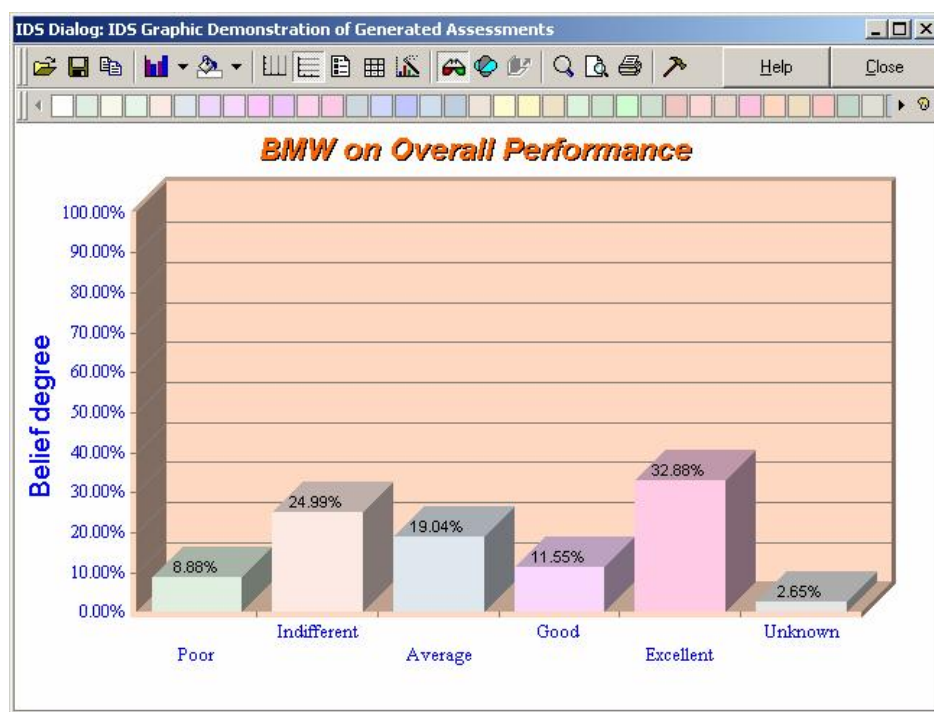

Figure 5.5 Display Performance Diversity of An Alternative
3. Click the  button in the toolbar at the top of the window. The graph you will see is similar to the one shown in **Figure 5.5**.
The information displayed in **Figure 5.5** provides more information than just an average performance score. This picture reveals the distribution of the overall strengths and weaknesses of the alternative. You may also search where those weak areas and strong areas locate (see **Section 5.3.3**). Such information can help the decision maker to make a more informed choice.